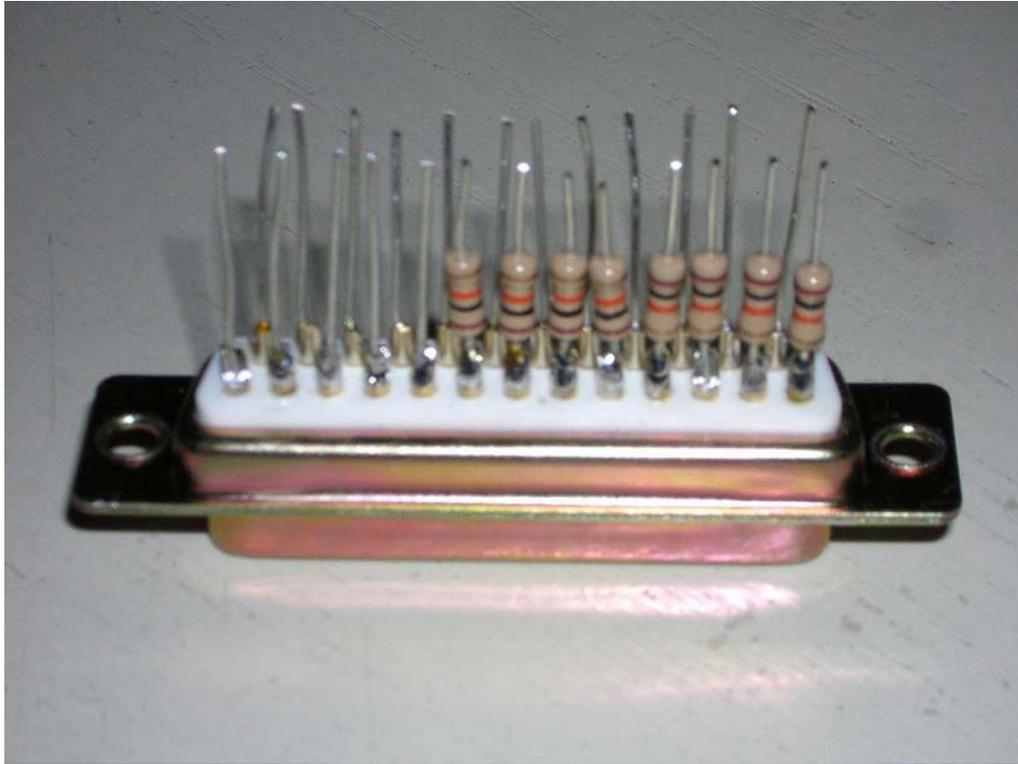

Figure 1. Resistor mounting.
3. Solder the cut ends of each of the eight resistors to pins one through eight of the DB25 connector. Refer to Figure 1.